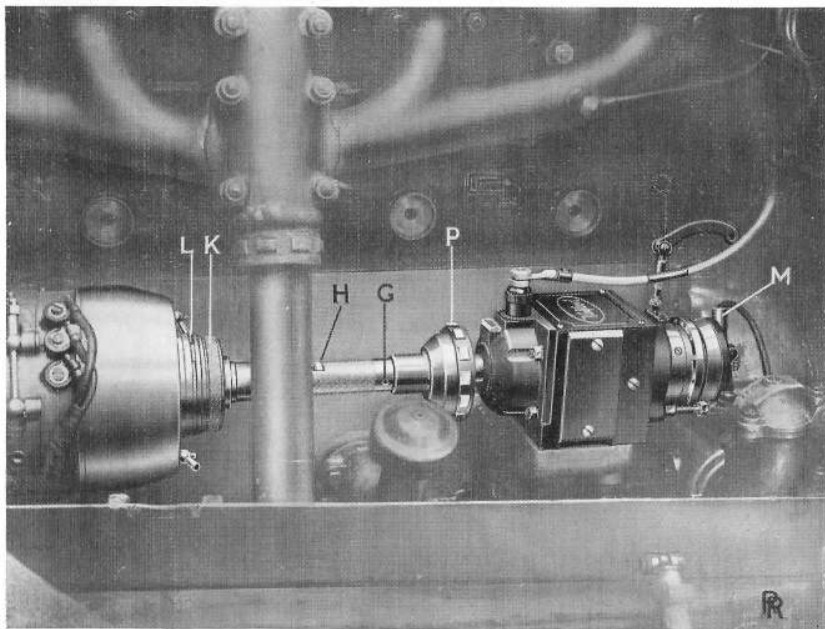

FIG. 11. MAGNETO.
**Magneto Ignition.** A special magneto (type R.O. 1) is fitted as a stand-by, and is shown in Fig. 11. It is provided with oil-holes, and two or three drops of oil should be added occasionally when the magneto is in use. Excess of oil, however, must be carefully avoided, as it will interfere with the working. An oil-hole is also provided in the drive shaft, as shown at **G**, and a drop or two of oil should be inserted occasionally, when using the magneto, to lubricate the rear coupling.
The drive is carried by serrated couplings from the dynamo shaft, the forward coupling being quickly detachable by hand, in order to avoid running the magneto save when it is required for ignition purposes. A tooth is omitted from this coupling, and the shaft is pressed forward by an internal spring, the coupling being normally held out of engagement by means of a catch shown at **H** in Fig. 11. The catch is released by pressing it inwards, when the shaft should be turned by hand until the serrated coupling is felt to be in engagement. The omitted tooth ensures that the timing is correct.
Should it become necessary to remove the magneto from the engine at any time, this should be done, if possible, without disturbing the rear drive coupling, which would necessitate re-timing of the magneto. The forward coupling is easily demountable by unscrewing the knurled cover K (Fig. 11), but before doing this, catch H should be depressed to clear the cover. The spring locking ring L should then be removed and the cover unscrewed (right-hand thread). The magneto is held on its bracket by two set-screws, and after removing these, detaching the earth wire M, and disconnecting the control mechanism, the magneto, complete with its shaft, can be removed.